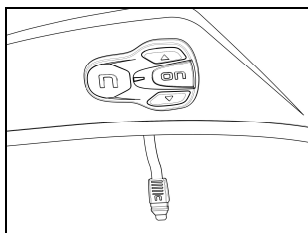

Fig. 36
- Apply the keypad to the shell and press down on its entire surface to make sure that it sticks properly (Fig. 36).